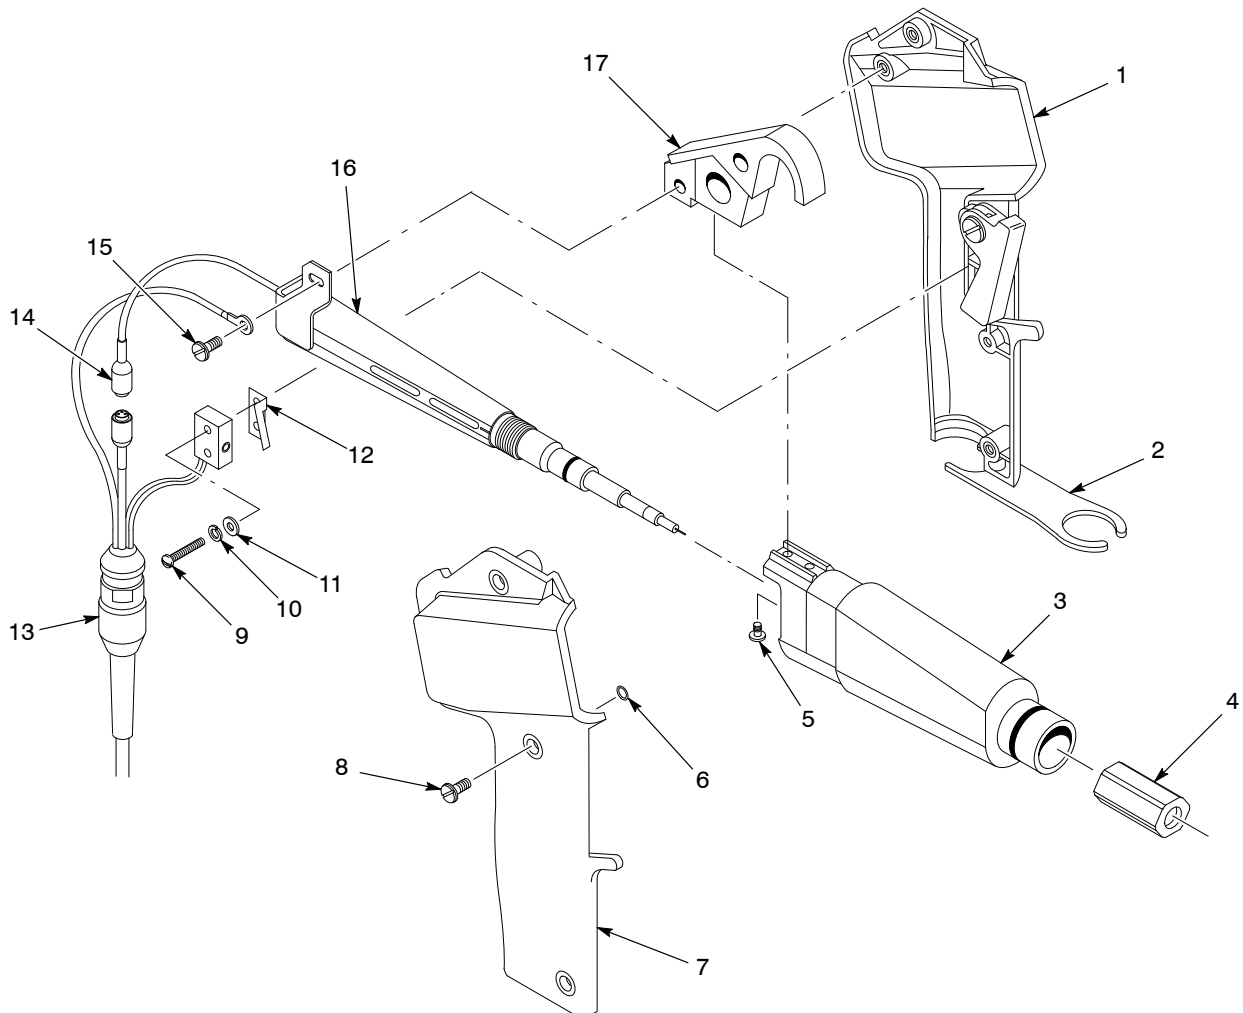

Figure 6-1 Multiplier and Cable Replacement
2. See Figure 6-1. Loosen the three captive screws (8) in the cover (7). The O-rings (6) hold the screws in the cover. Lift the cover off the handle (1).
3. Remove the screw (15) securing the multiplier heat sink bracket to the hanger (17). Remove the cable ground wire (later versions only).
4. Loosen the connector swivel nut, and disconnect the cable (13) from the multiplier connector (14).
5. Remove the extension (3) and multiplier (16) from the handle.
6. Loosen and remove the cable nut (4). Use a wrench if necessary.
8. If you are replacing the old extension with the new one included in the kit, remove the two screws (5) that secure the hanger to the extension, and remove the hanger. Install the hanger on the new extension.
2. See Figure 6-1. Remove the two screws (9), lock washers (10), and flat washers (11). Remove the trigger switch and actuator (12) from the handle (1).
3. Rotate the hose bracket (2) slightly, and release the cable (13). Note how the cable fits into the hose bracket.
4. Fit the new cable into the hose bracket and route the ground wire around the end of the multiplier. Secure the ground wire to the hanger (17) with the screw (15).
5. Connect the cable to the multiplier connector (14) and arrange the wiring so that it will not be pinched between the handle and the cover when the cover is installed.
6. The cable service kit includes new screws (9), washers (10, 11), and a switch actuator (12). Install the actuator on the trigger switch and secure both to the two threaded inserts in the handle with the screws and washers.
7. Install the cover (7) on the handle.